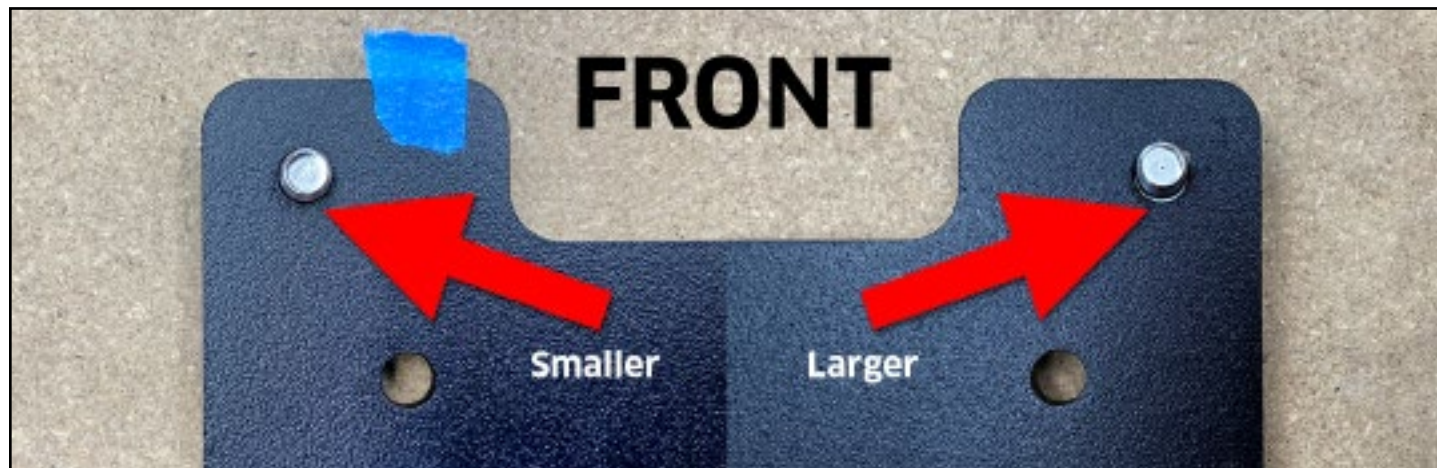

Figure 3-10
PRO TIP: Insert the tramming plate hardware, two (2) M5x8mm screws, from the back and examine each screw hole for a gap. Mark the smaller, standard-sized M5 screw hole with a piece of tape. See **Figure 3-10**.